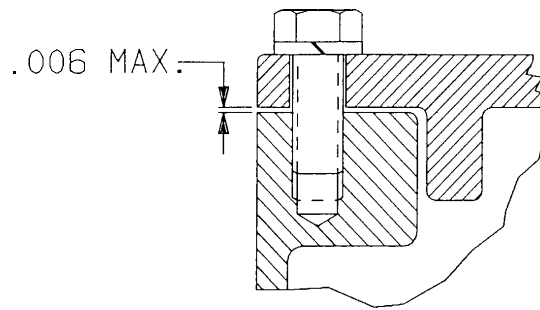

FIGURE 5
- (WEEKLY) 3. () "Alternator Covers" are properly installed with all bolts and lockwashers in place and tight (Figure 5).